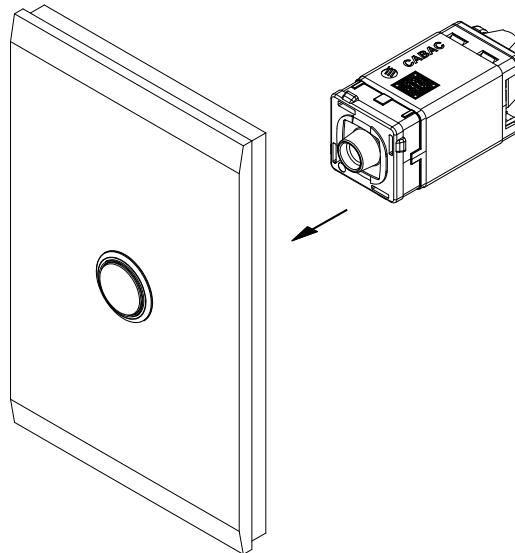

Figure 3
- Attach the HNS446TM to the back of wall plate as per Figure 3.